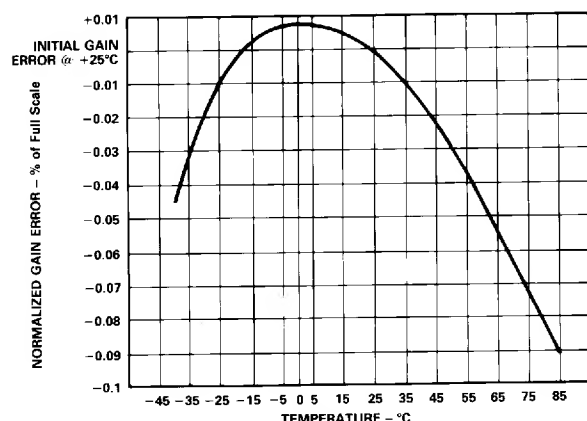

Figure 2. Normalized Gain Error (% of Full Scale) vs. Temperature ( $^{\circ}\text{C}$ ), with  $V_S = 15$  V pk-pk, 25 kHz Square Wave
1This specification represents the average gain drift over the indicated temperature range. Refer to Figure 2 for an illustration of the typical normalized gain drift for the AD208.
**Gain Drift.** Figure 2 presents the normalized gain drift, from the gain error measured at +25°C, of the AD208 over the -40°C to +85°C rated temperature range.